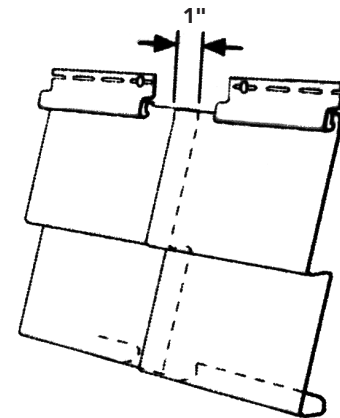

Figure 36
- When panels overlap, make sure they overlap by approximately 1" (25.4mm) (Figure 36).
- Always overlap joints away from entrances and/or away from the point of greatest traffic. This will improve the overall appearance of the installation (Figure 36).